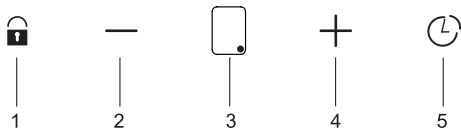

Fig. 9: Turning the delayed shut-off automatic on/off
1. Press the timer button ⌚ (Fig. 9/5).
2. Press the sensor button again ⌚ (Fig. 9/5).